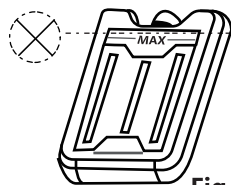

Fig.5
c. If you wish to use an ice box (two ice boxes are included) instead of ice blocks, fill the ice box with water being sure not to exceed the maximum level indicated. (Fig. 5)